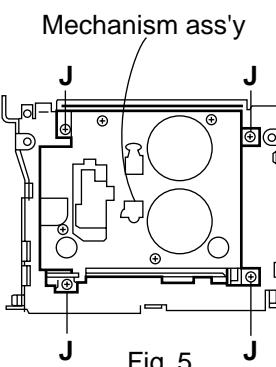

Fig. 5
■ Removing the mechanism ass'y (see Fig.5)
■ Removing the pinch roller ass'y (see Fig.5,6)